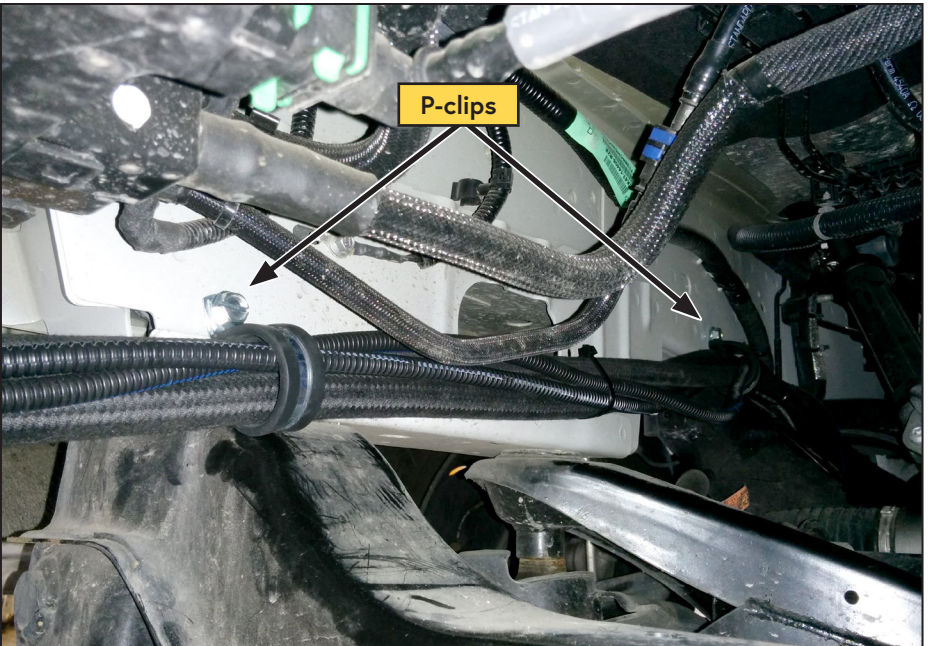

Figure 45 — Hose routing along inside of driver side frame
- Route the hoses along the inside of the driver side frame rail and secure them using the 2 supplied P-clips and 5/16 in x 3/4 in sheet metal screws in the existing holes on the frame (Figure 45).